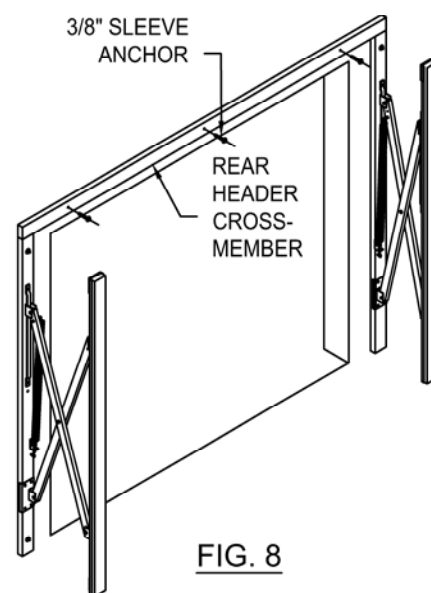

FIG. 8
* Position rear header cross-member into place (figure 8).
* Insert 3/8" sleeve anchors and tighten with 1/2" socket wrench (fig. 8).